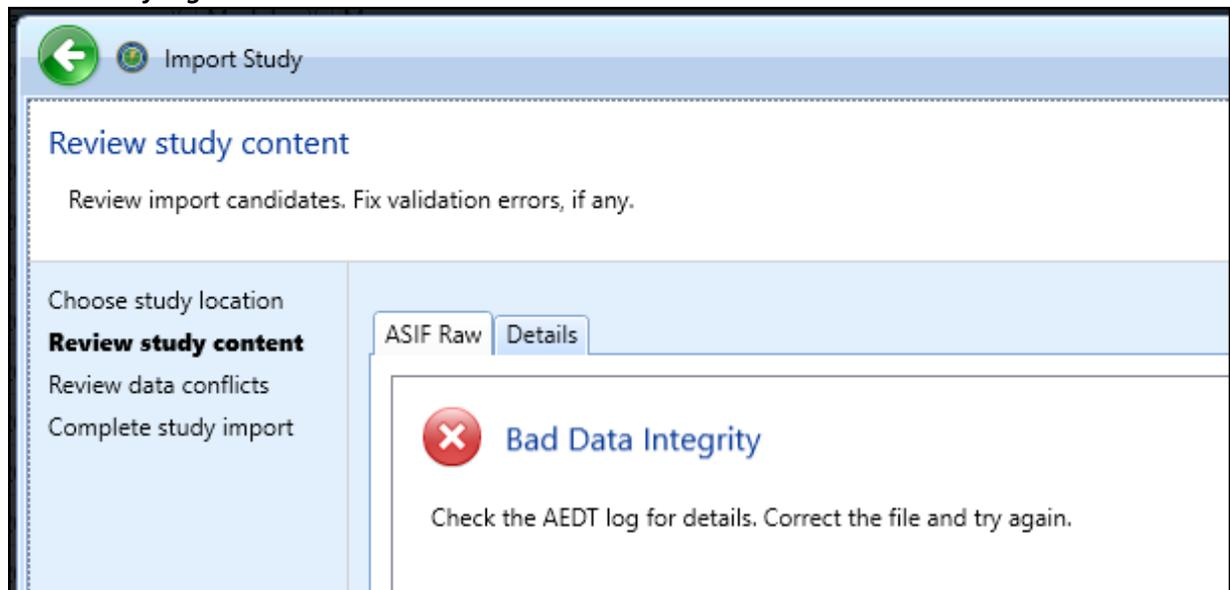

Figure 53- Review study content - bad data integrity
- The *Review study content* step displays validation errors if any (Figure 53).